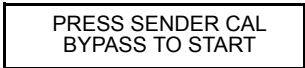

FIGURE 2-10
2. Scroll until control calibration screen (Figure 2-10) appears.
7. When calibration is complete, start screen in Figure 2-10 reappears.